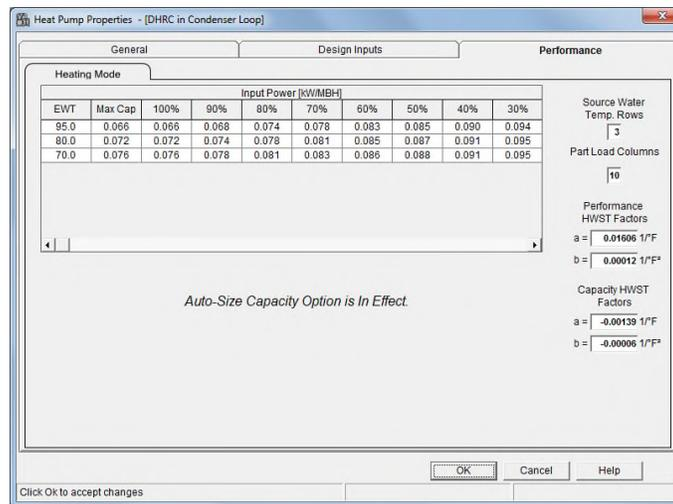

Figure 6.
- On the Performance tab (Figure 6), make sure performance data is provided for the range of operating conditions expected. For a W2W heat pump the rows in the performance map represent performance for different evaporator entering water temperatures. Data needs to be provided for the range of entering water temperatures anticipated.